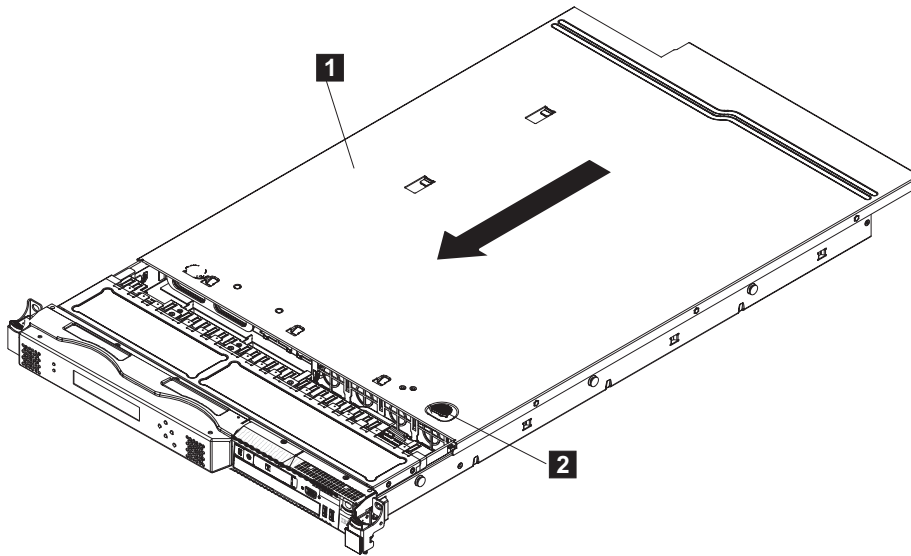

Figure 72. Replacing the SAN Volume Controller 2145-CF8 cover
5. Slide the cover toward the front of the node, as shown in Figure 72.